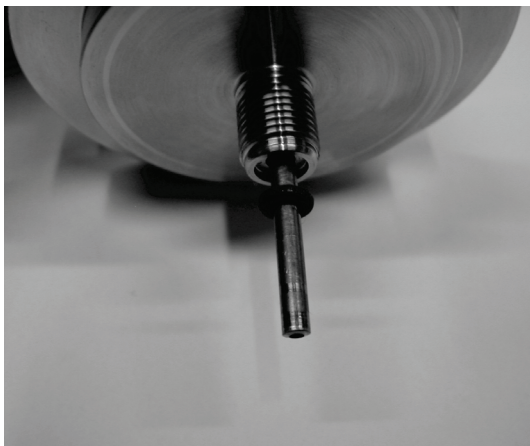

Figure 78 Gas transfer line – end-piece O-ring
- After cleaning the gas transfer line, check the condition of the O-ring (Figure 78) as this may need to be replaced periodically (P/N L8201881).